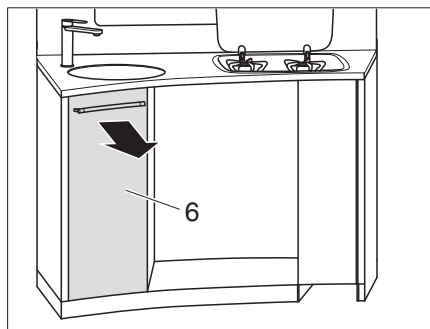

Fig. 122 Removing high kitchen drawers
- Remove the high kitchen drawer (Fig. 122,6).